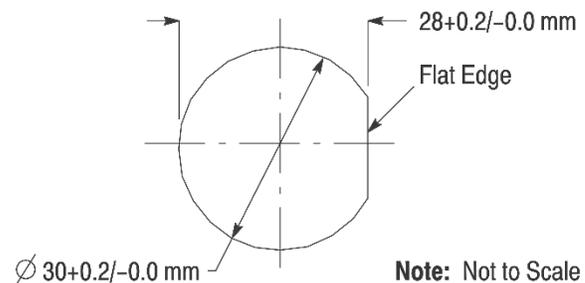

Figure 17
1. Cut the panel using the dimensions provided in Figure 17.
- Updated panel thickness range in Figure 17